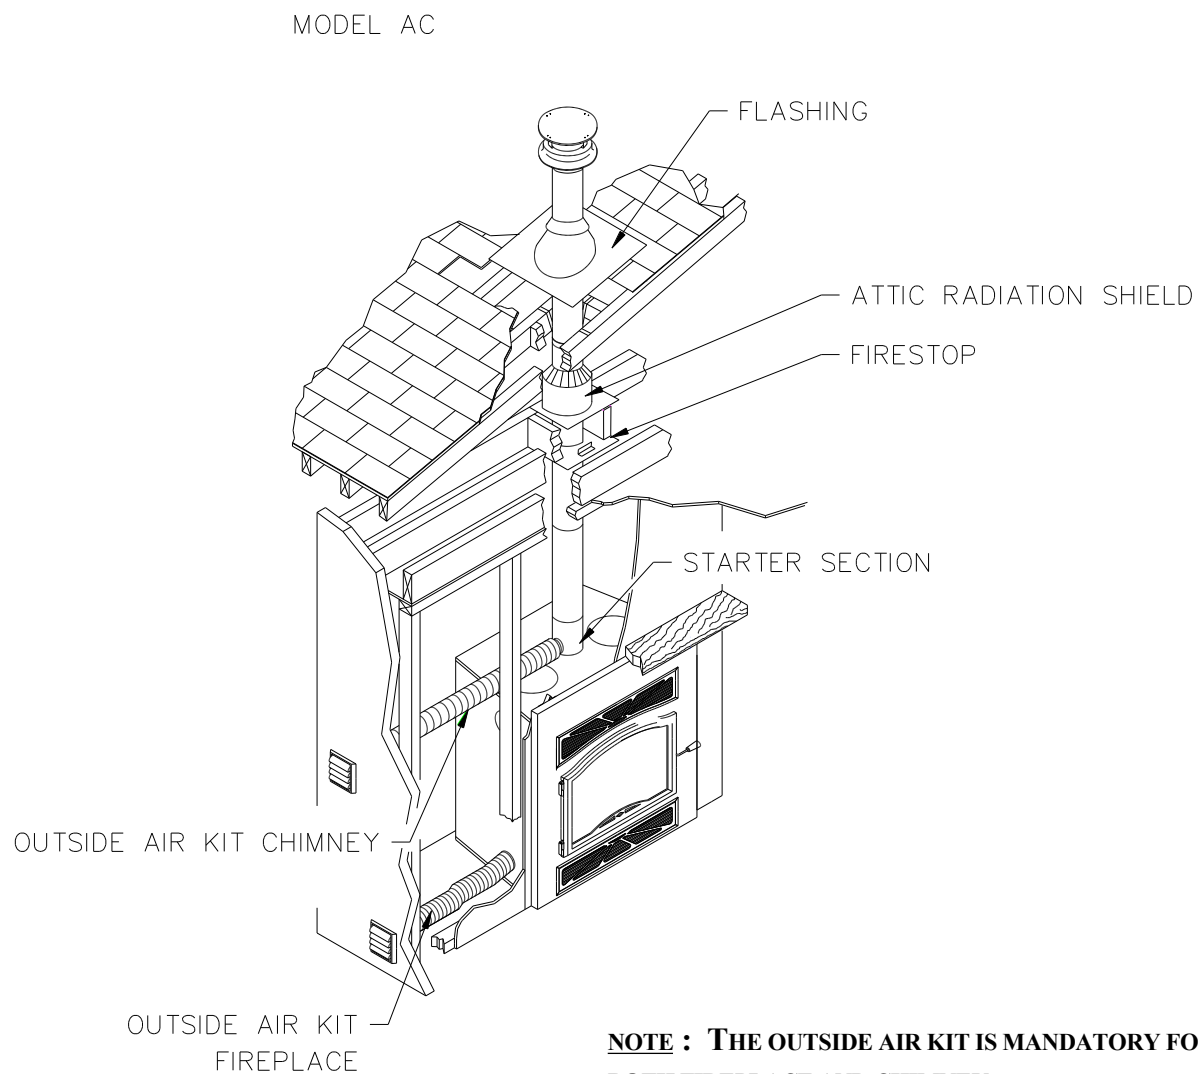

Figure 28
3. For Secure TempASHT+ / Nova TempHT6103+ and Secure TempS2100+ / Nova TempHT6000+ chimneys, place the first chimney length on the fireplace. To lock it in place, turn \_ of a turn clockwise. With the ACBI chimney, you must use a starter section before installing the first chimney length (figure 28). Continue installing chimney lengths making sure to lock each length in place.